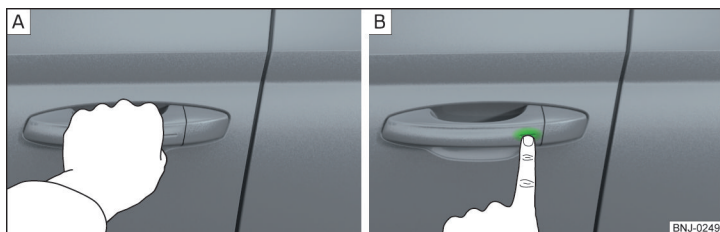

Fig. 45 Vehicle unlocking / vehicle locking
- Grip the door handle to **unlock** the vehicle » Fig. 45 - **A**.
- Touch the sensor on the door handle with your finger to **lock** » Fig. 45 - **B** the vehicle.
- Within 5 s, touch the sensor on the door handle with your finger » Fig. 45 on page 53 - **B**. Deactivation is confirmed by a single flash of the direction indicators.